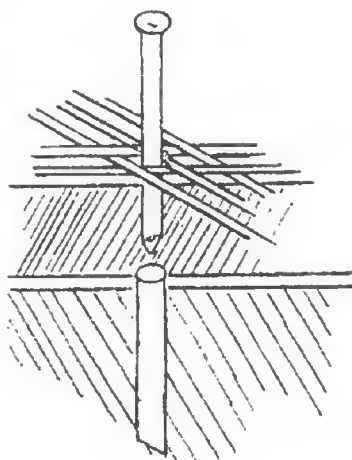

FIGURE 2
- b. Drive a small nail with a large head through grille cloth web at one end of assembly. Center nail in web cross hatch (Figure 2). Remove grille cloth and baffle assembly by pulling out carefully on nail.